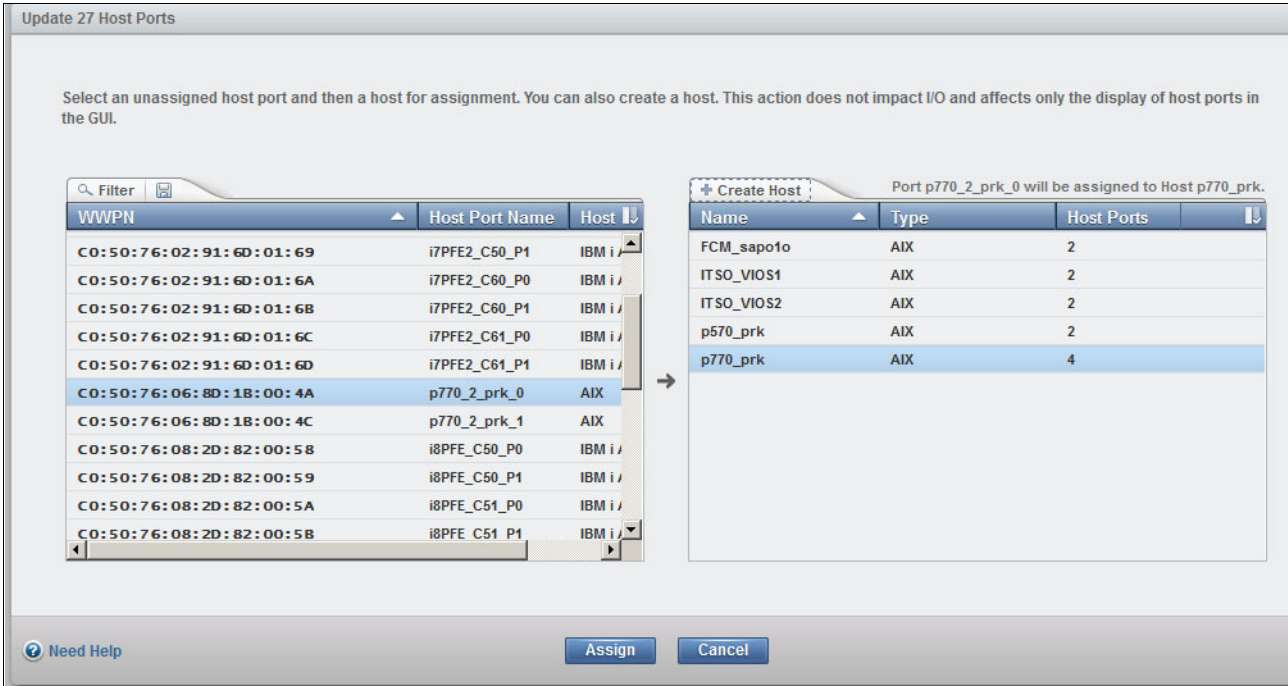

Figure 11-51 Manual Host Ports Update
- Select **Manually Create Hosts** to manually assign host ports to the existing hosts or click **Create Host** to create hosts to assign the ports (Figure 11-51).